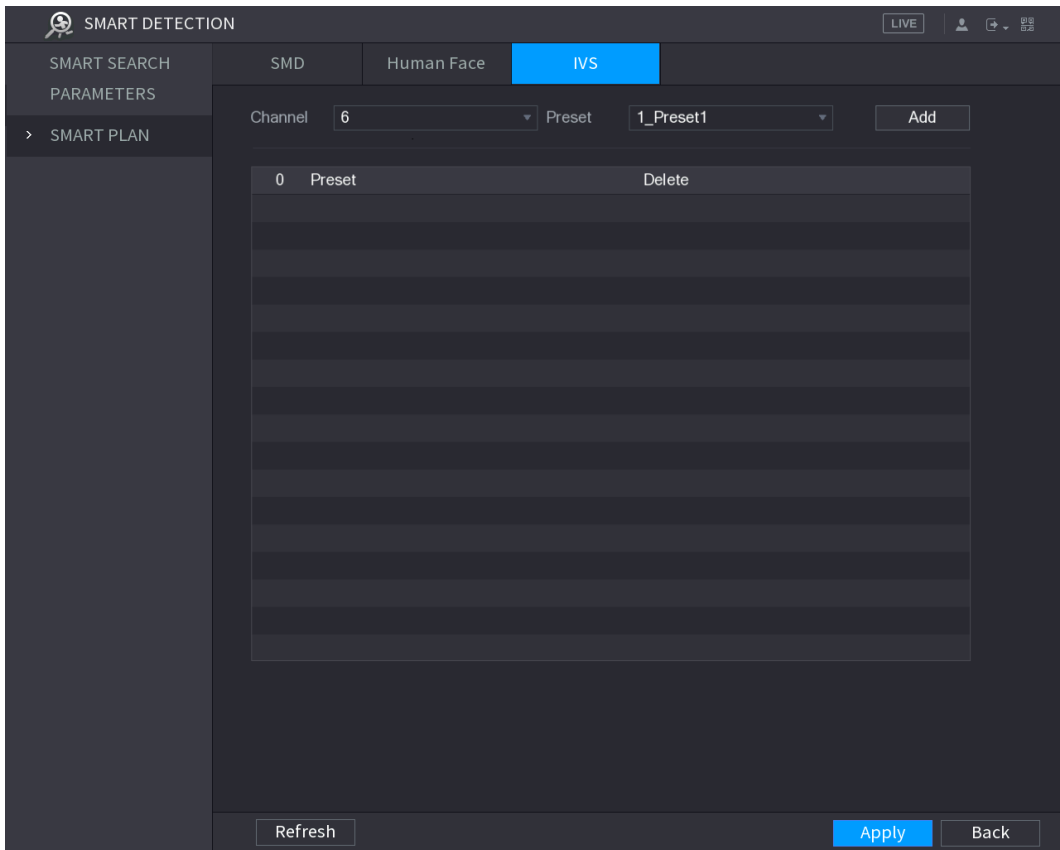

Figure 5-166
- For the IP camera with preset, see Figure 5-166.